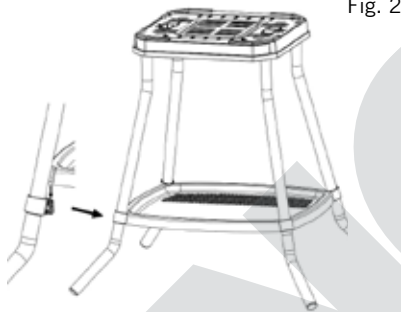

Fig. 2
5. Insert the bottom shelf (Fig. 2). The stand tubes are fitted with matching brackets [15] that need to engage in the shelf (Fig. 2).